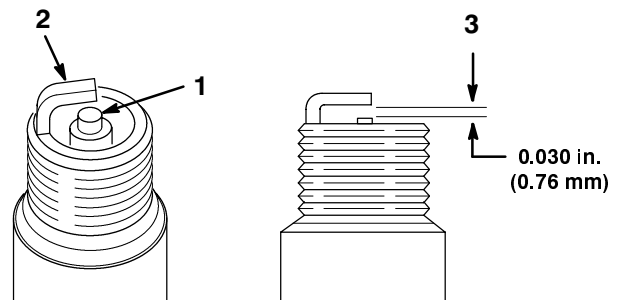

Figure 62
1. Look at the center of the spark plug(s) (Fig. 62). If you see light brown or gray on the insulator, the engine is operating properly. A black coating on the insulator usually means the air cleaner is dirty.
2. Check the gap between the center and side electrodes (Fig. 62). Bend the side electrode (Fig. 62) if the gap is not correct.